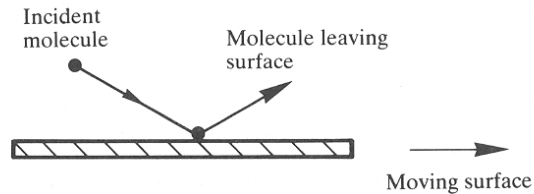

Figure 8.1 Interaction between a moving surface and an incident molecule
**FIGURE 8.1.** A mechanical pump for roughing vacuums. The eccentric motion of the pump creates a vacuum in the RH side when it rotates and the vacuum sucks air into the inlet valve. As the cylinder rotates further, it cuts off the inlet and forces the air through the outlet on the LH side, creating a vacuum again on the inlet side as it does so. Because of the constant contact between the rotating cylinder and the inside of the pump, oil is needed to reduce frictional heating.
The physical basis for the pumping action is the interaction effect between a molecule and a moving surface. The short but finite residence time occurring when a molecule strikes a surface results in the molecule acquiring an additional velocity component in the direction of the moving surface (see Figure 8.1).